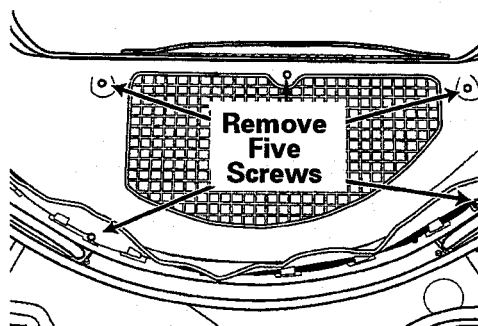

Figure 2-31
3. Remove the four 1/4" hex head screws and the one cross recess countersunk screw securing the outlet duct to the tumbler front. **NOTE: Two of the hex head screws are hidden under the felt seal. Pull the outlet duct free from the tumbler front, see figure 2-31.**